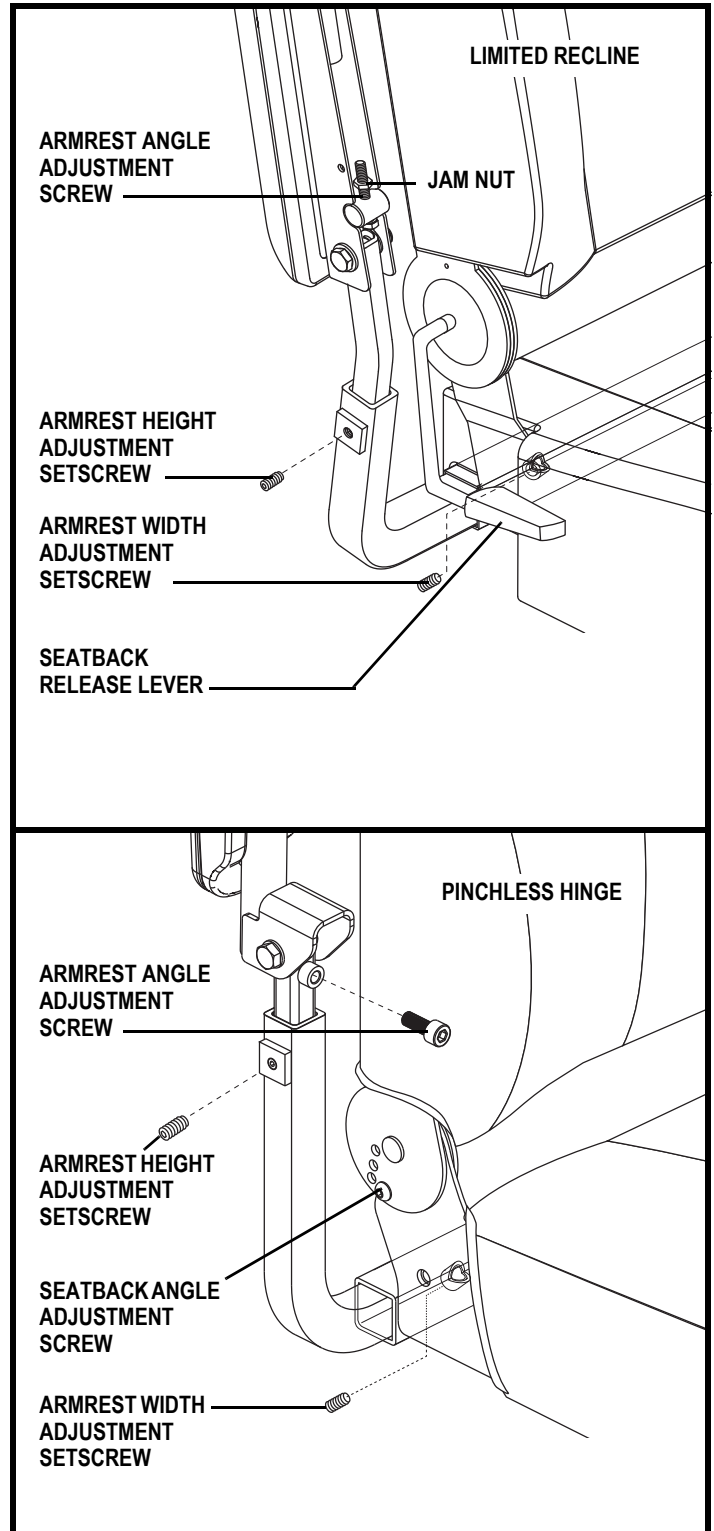

Figure 13. Armrest and Seatback Adjustments
If your power chair is equipped with a recline seatback, you can adjust the seatback angle using either hardware or the seatback release lever. See figure 13.
1. Locate the armrest width adjustment setscrew on each side of the armrest receiver bracket. See figure 13.
1. Loosen the setscrew on the armrest. See figure 13.